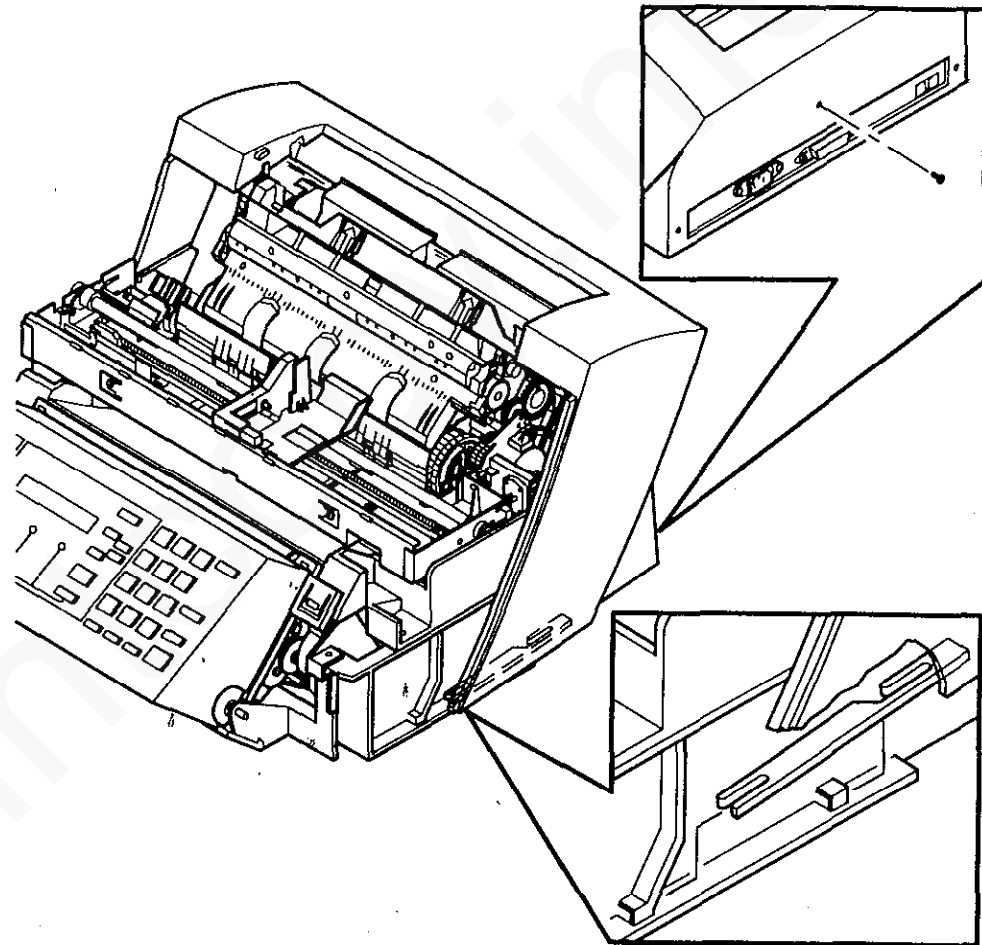

Figure 1 Disengaging the tabs
4. Slide the Rear Cover off, disengaging the 4 tabs from the Bottom Pan (Figure 1).